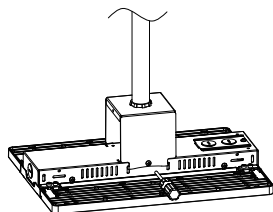

Figure 3
Step2. Lock fixture on the bracket (Figure 3);